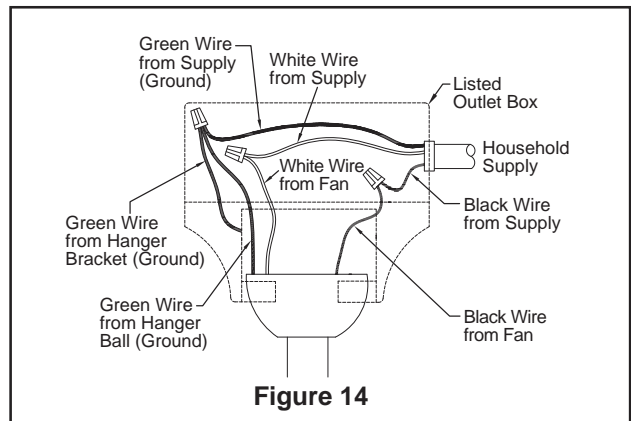

Figure 14
2. After connections have been made, turn leads upward and carefully push leads into the outlet box, with the white and green leads to one side of the box and the black leads toward the other side. The wires should be spread apart with the grounded conductor and the equipment-grounding conductor on one side of the outlet box and the ungrounded conductor on the other side of the outlet box. (Figure 14)